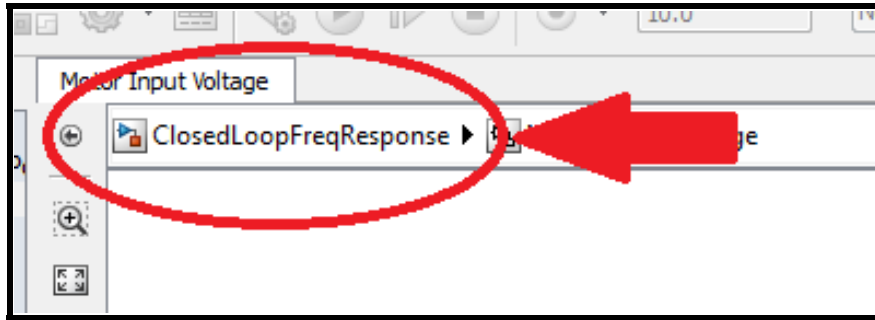

Figure 3.5: Exit the Subsystem Block
16. Navigate back to the main model by pressing the “ClosedLoopFreqResponse” text, as in Figure 3.5.